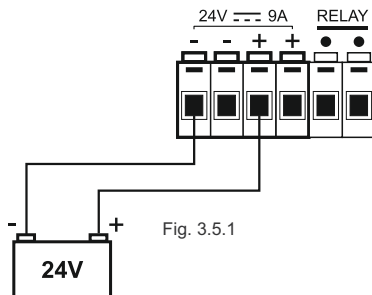

Fig. 3.5.1
The terminal block (6) enables connection to an external DC power supply (Fig. 3.5.1) and to a relay (Fig. 3.6.1).